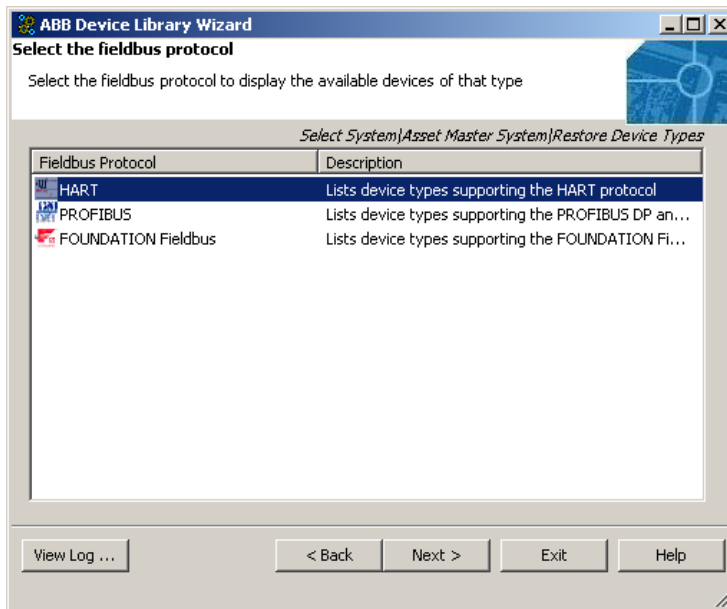

Figure 68. Select Fieldbus Protocol
- The resulting screen, similar to the one shown in Figure 68, lists the Fieldbus Protocols. Select the protocol corresponding to the Device Object Type to be restored and click on **Next** button.